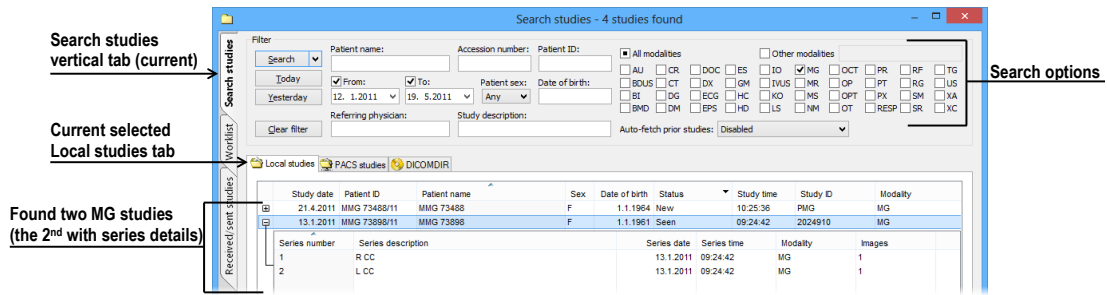

Figure 428 – Opened patient study from the Local studies
- Finding and opening a required study stored in the local studies of TomoCon (see Figure 428) by taking the following steps: